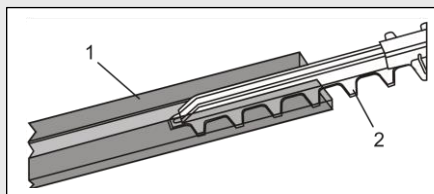

Fig. 1
1. Slide the blade guard (1) over the cutting blades (2) (Fig. 1).